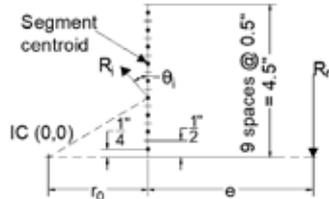

Figure 2
- 2 **Using the instantaneous center of rotation method.** Break half of the weld length into equal segments (see Figure 2).